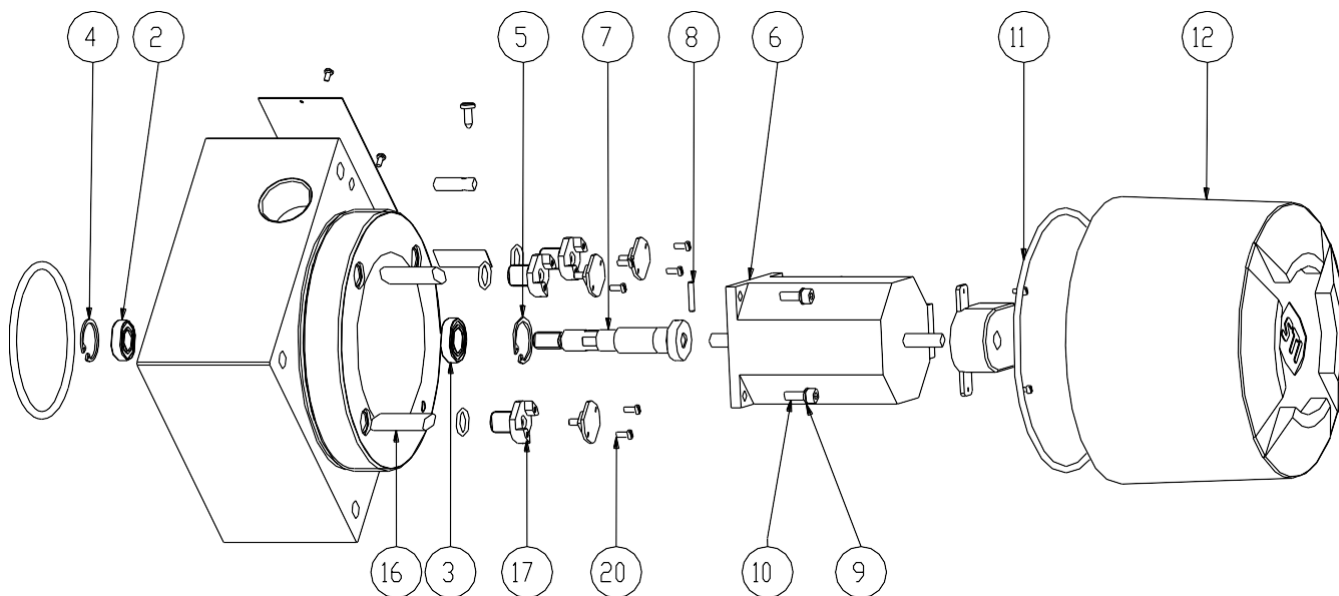

fig. 4 – Motor enclosure components
Do not remove the cylindrical joints before start up and during operation it must be ensured that all the three pressure transducers are correctly fixed inside the enclosure pos. 16 fig. 4 for any reason otherwise the flame proof gap is compromised.